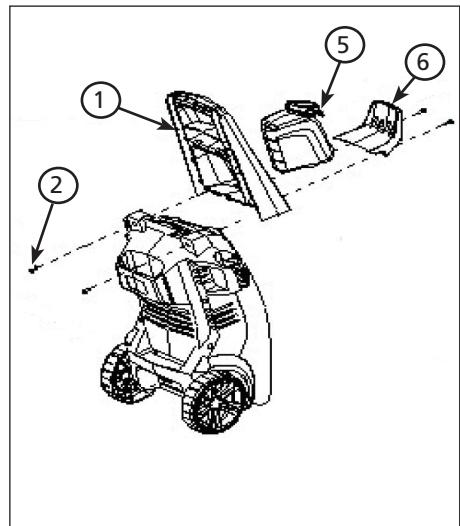
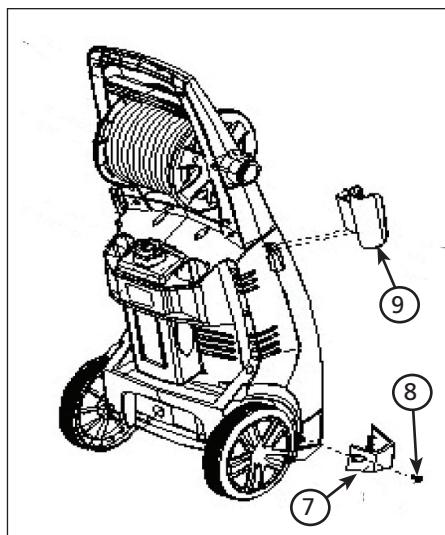
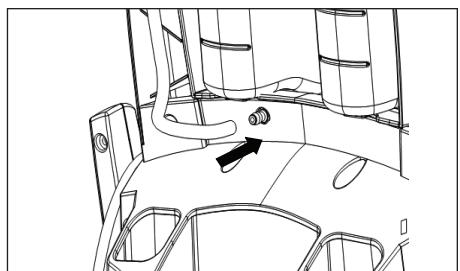

Figure 8 - PW1825 only
Figure 9 - PW1835 only
Figure 10 - Attach soap tube to unit (models PW1825 and PW1835 only)
1. Slide handle (1) onto unit (see Figure 8).
3. Slide hose hook (6) onto front of pressure washer.
5. Slide soap tank (5) into handle.
6. Attach soap tube to unit (see Figure 10).
1. Slide upper gun hook (9) onto unit (see Figure 9).
2. Rotate lower hook (7) into slot in unit.
3. Attach lower hook (7) with phillips screw (8).
4. Attach soap tube to unit (see Figure 10).